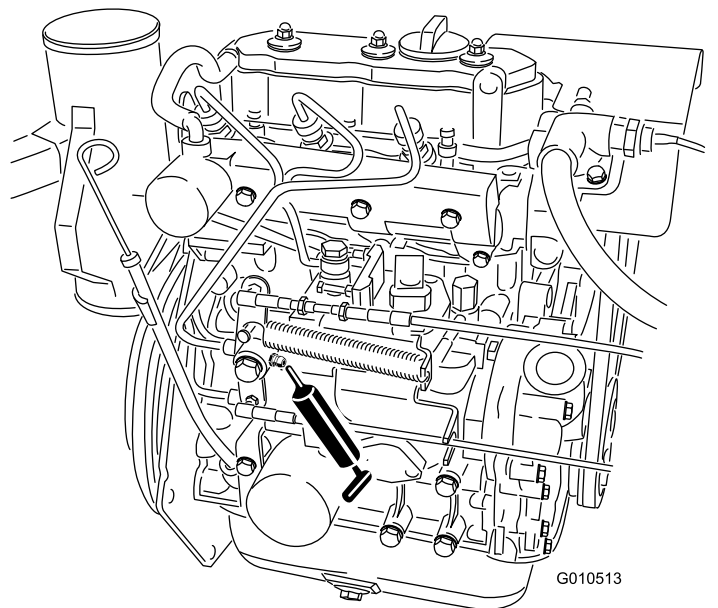

Figure 32
- Accelerator arm (1) (Figure 32)